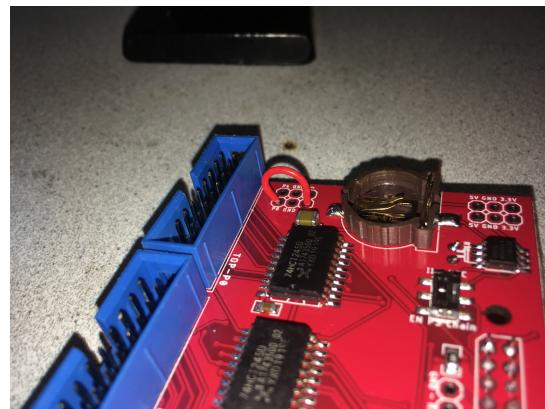

Figure 3.24: Making the jumper connection on the shield
Step 1 Strip both ends of the short piece of wire. Connect one end to *P8* and the other end to \square (the tilted *E*). See Figure 3.24.